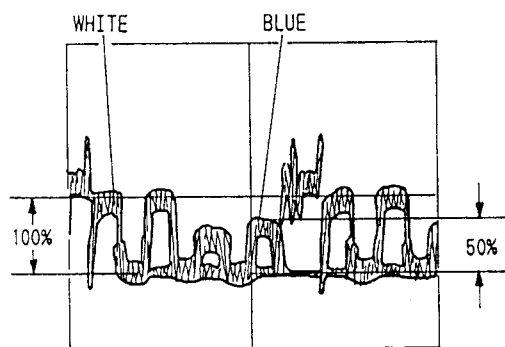

Fig. 4-7
9) **Matrix Adjustment** (Figs. 4-7, 4-52)